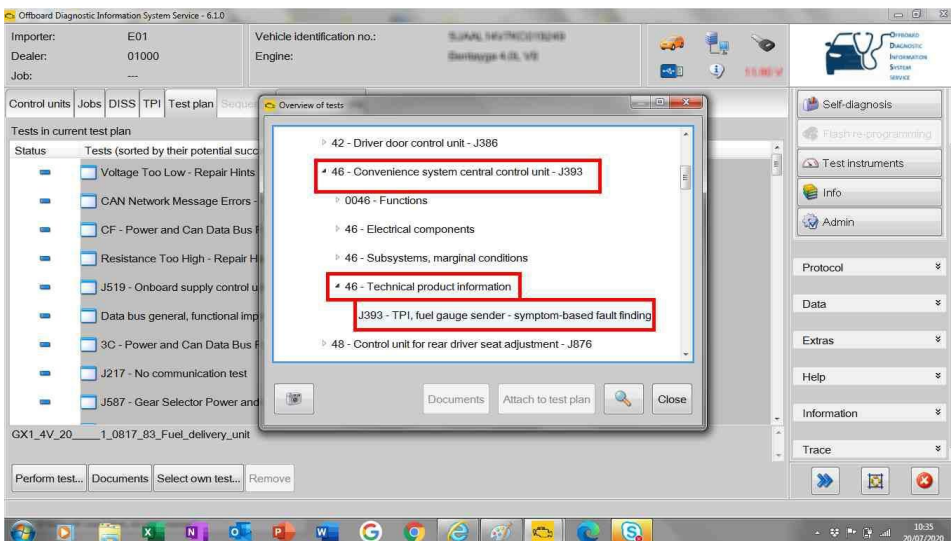

Figure 4
- Select “46 - Convenience system central control unit - J393” – Figure 4.
- Select “46 - Technical product information” – Figure 4.
- Select “J393 - Fuel gauge sender – symptom-based fault finding” – Figure 4.